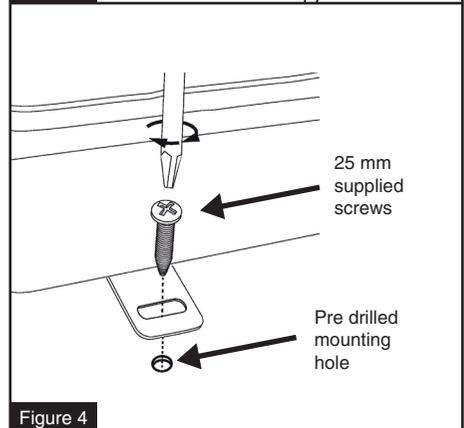

Figure 4
7. Position the subwoofer so that the holes correspond to the metal supplied screws and fix it. (Figure 4)